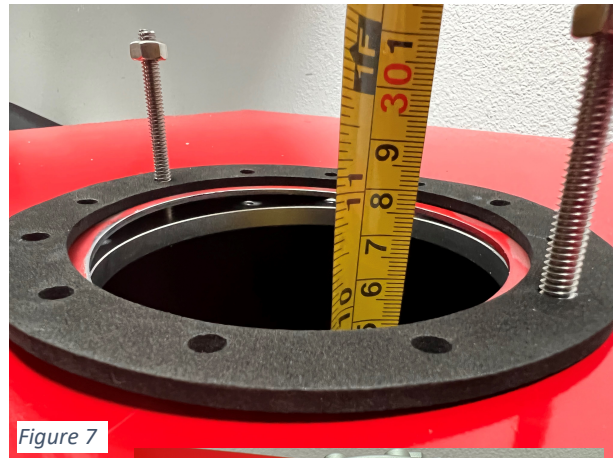
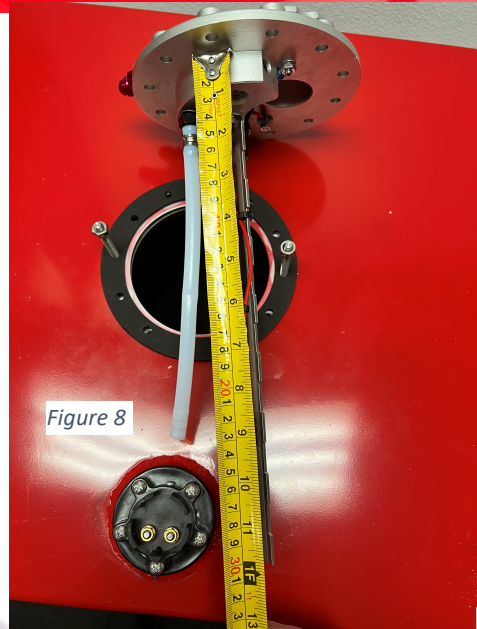

Figure 7
Figure 8
6. Measure depth of tank and determine where pump needs to be positioned vertically (Figure 7.) Once you have determined proper pump location so that filter sock will be within an 1/8" of the bottom of the tank when installed, cut the opaque hose and metal support rod to the desired length (Figure 8 & 9.) Using a heat gun, heat the end of the hose that will go onto the fuel pump (Figure 14). Push the heated hose onto the outlet nipple of the pump. **Note: Be sure to push straight and evenly. Do not force as pump nipple can break. If hose is not fully on pump nipple, reheat hose prior to pushing further.** (Figure 17) Secure with a hose clamp. (Item 10)